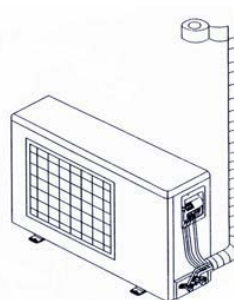

Fig.10.21
- (1). Use adhesive tape to bundle the connecting pipe and the cables together. To prevent condensate from overflowing out from the drain pipe, separate the drain pipe from the connecting pipe and the cables.
- (2). Use thermal insulation tape to wrap the pipes from the bottom of the outdoor unit until the upper end of the pipe where the pipe enters the wall. When wrapping thermal insulation tape, the later circle of tape must cover half of the prior circle of tape (Refer to Fig.10.21).
- (3). Wrapped pipe must be fixed to wall using pipe clamps.